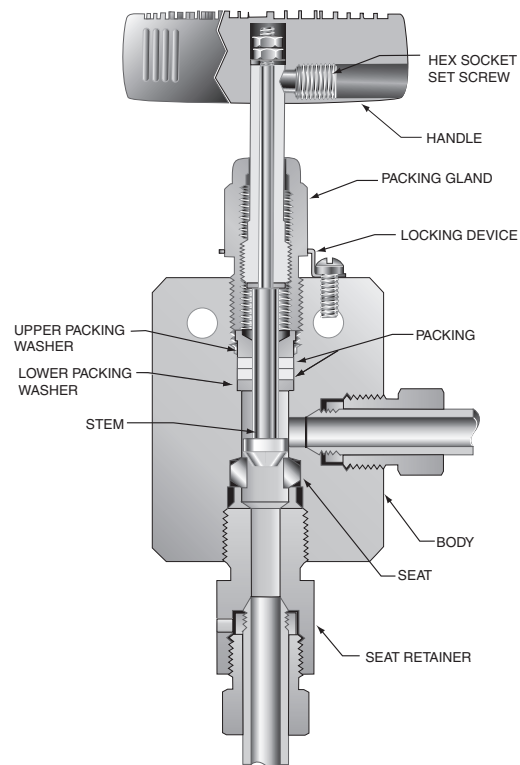

Figure 3: Valve with Replacement Seat
4. While holding the valve body (or housing for HT and LT valves) secure, unthread and remove the packing gland. The packing will stay on stems that have a larger stem tip below the packing (see Fig. 3: SW8, 10/20SM9, 10/20SM12, 10/20SM16).
(see Fig. 3)